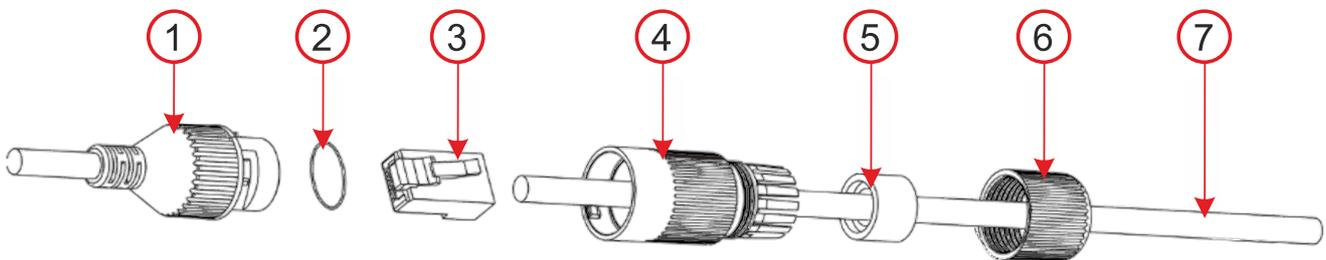

Fig. 4: How to fold the waterproof LAN connector cover
3. Drill holes in the selected location with a \varnothing 6mm drill bit and fix with dowels from the package. Open the mounting base by removing the screws. Depending on the selected cable feed method – centre or side (8), prepare a hole for running the cables. In case of side installation use the cable grommet (4, 5, 6) for the selected hole – (the cable grommet is included in the packing), use the blanking plug (7) for the unused one.
4. Pull the LAN cable through the back of the socket. Screw the back of the socket onto the selected place on the wall with the three screws provided in the packaging. crimp the RJ-45 connector with crimping pliers (see Fig. 4).
5. Plug the RJ-45 connector to LAN connector. If the utilized router or switch does not provide PoE (power over Ethernet), connect the camera power (9) connector to an external 12 V DC power supply (min. 0.5 A).
6. Release the camera mount (14) by turning the rotating ring (1) counter-clockwise when facing the back of the camera. Screw the lid of the mounting socket onto the bottom